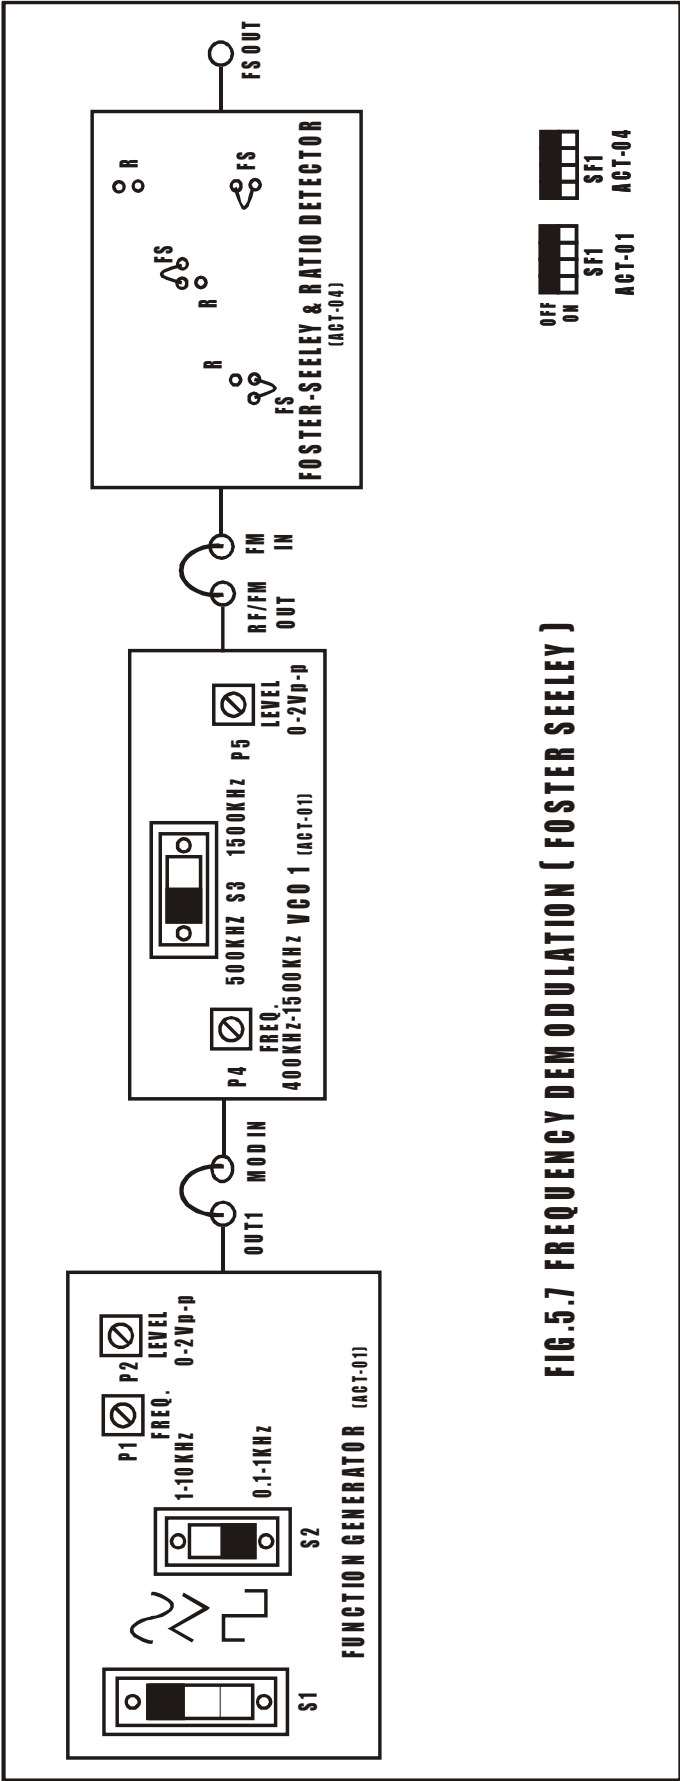

FIG.5.7 FREQUENCY DEMODULATION (FOSTER SEELEY)
- Refer to the fig.5.7 & Carry out the following connections and switch settings.